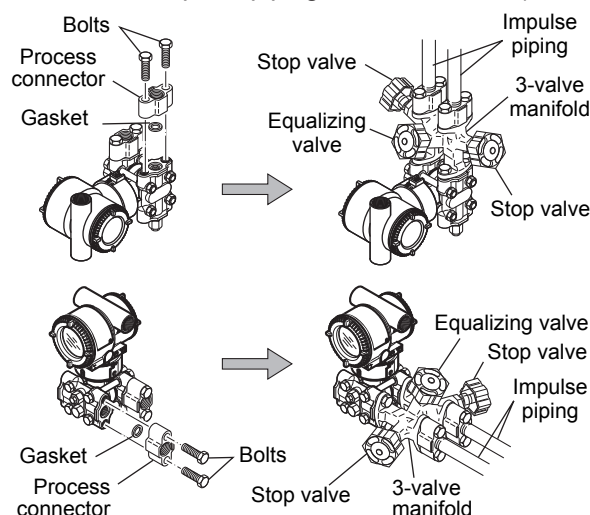

Figure 5.3 3-Valve Manifold (Direct-Mounting Type)
■ Direct-Mounting Type 3-Valve Manifold (Figure 5.3)